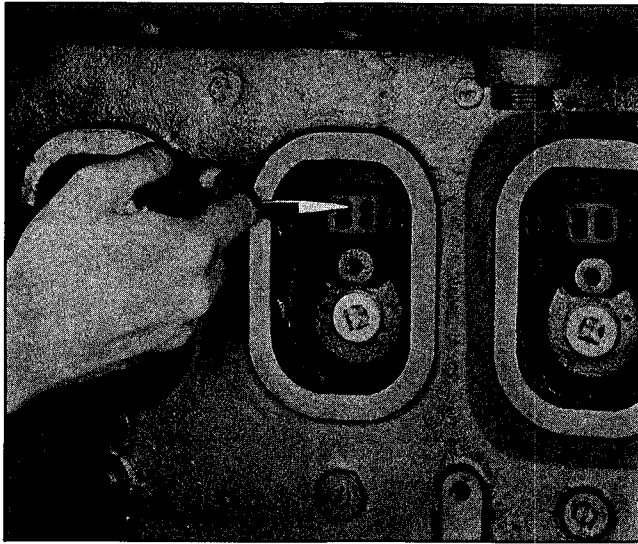

Fig. 4—Inspecting for Broken Piston Rings Through Cylinder Liner Air Ports.
- a. Piston rings may be stuck in their ring grooves. To determine the condition of the rings, examine them as shown in Fig. 4.